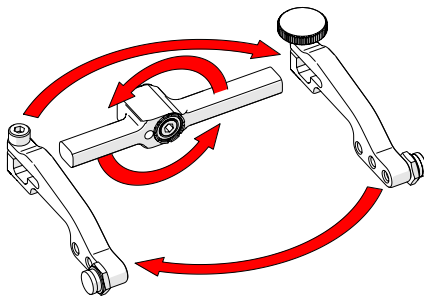

Fig. 160 - Flip yoke and reverse arms
4. Flip the yoke 180° and reverse the probe holder arms (Fig. 160).